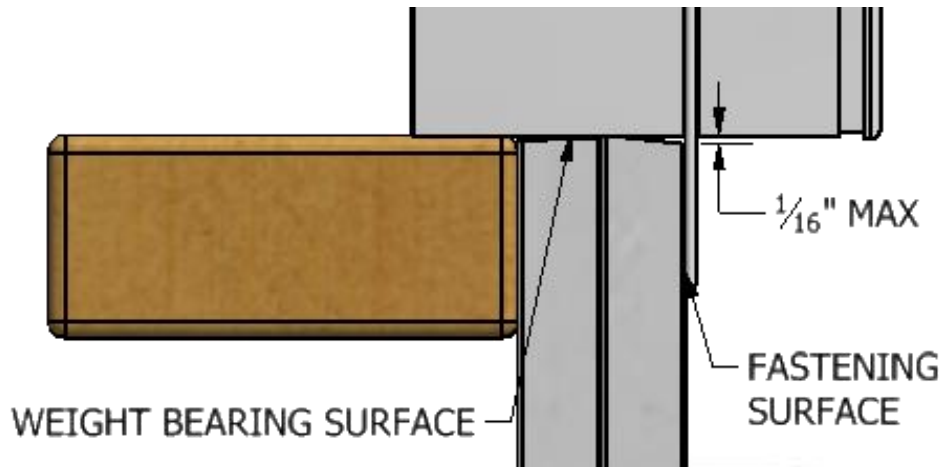

Figure 2 Acceptable Condition (flatness)
- a) The weight bearing surface that the sill sits on must be flat and level to 1/16" to be considered fully supported. (See Figure 2)